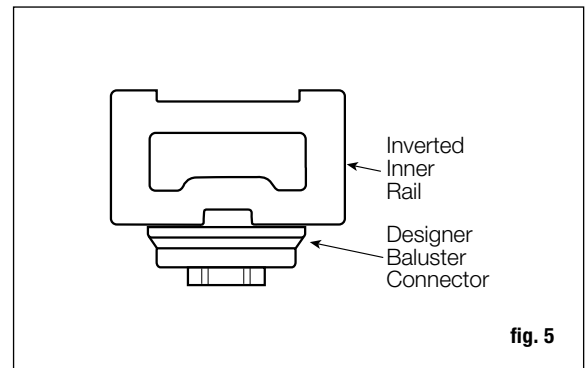
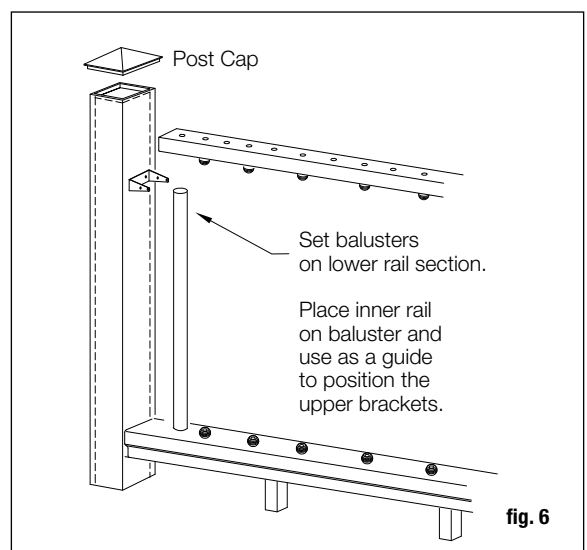

fig. 5
fig. 6
Step 12 Important: When using Deckorators Designer Baluster Connectors (both Estate and Classic), the upper inner rail must be inverted (fig. 5). Use an exterior adhesive on the underside of the Designer Baluster Connectors to prevent the balusters from spinning. Install the baluster connectors on the underside of the top inner rail (fig. 6). Set the rail on to the balusters, gently tapping the rail to remove any gaps. Attach the inner rail to the brackets by pre-drilling 1/8" holes at each bracket hole and into the inner rail. Fasten the rail to the bracket using 1" countersunk screws.
Step 10 *Important: When using Deckorators Designer Baluster Connectors (both Estate and Classic) in conjunction with the stair adaptors, the upper inner rail must be inverted (figure 5). Use an exterior adhesive on the underside of the Designer Baluster Connectors to prevent the balusters from spinning.* Install the remaining baluster connectors and stair adaptors (if applicable) on the underside of the upper inner rail. Set the rail onto the balusters, gently tapping the rail to remove any gaps. Attach the upper inner rail to the brackets by pre-drilling 1/8" holes at each bracket hole and into the inner rail. Fasten the rail to the bracket using 1" countersunk screws.